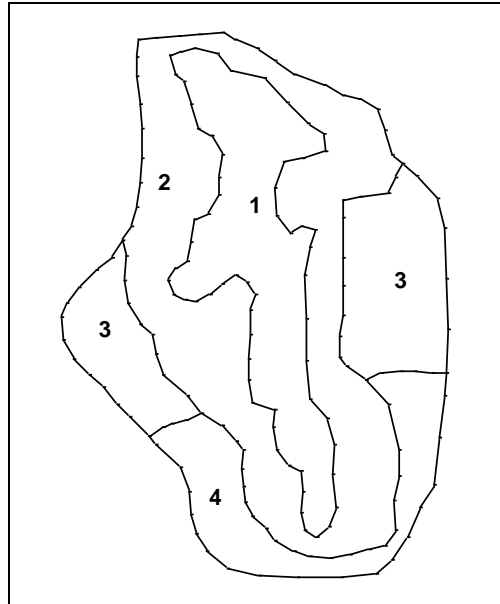

Figure 7 Hydraulic conductivity zones
4. Using the **Select Polygon**  tool and while holding down the *Shift* key, select the polygons labeled 1 and 2 in Figure 7.